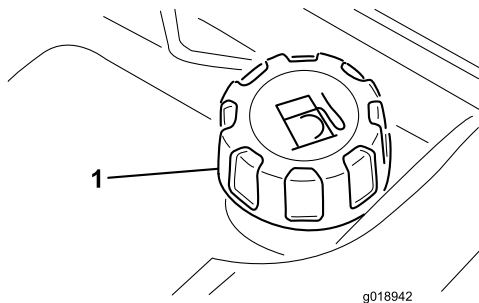

Figure 28
1. Tip seat forward and prop it with the support rod so it cannot fall accidentally. Using a clean rag, clean area around fuel tank cap (Figure 28).